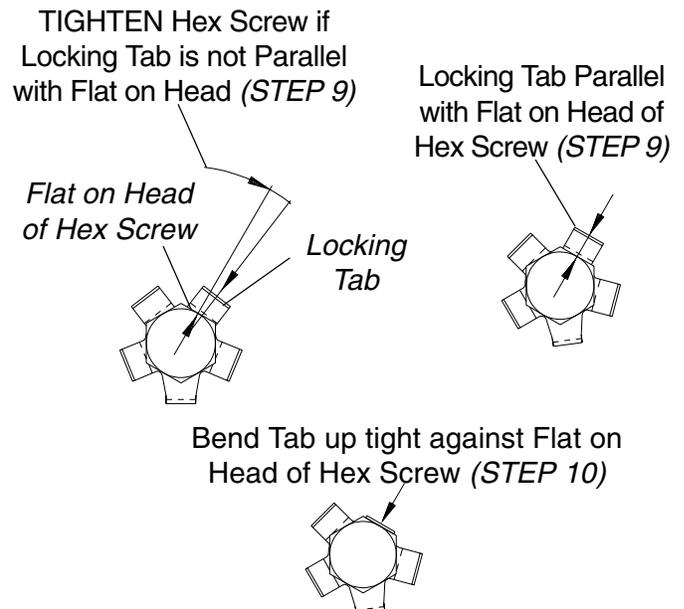

FIGURE 6 - LOCKING TABS
9. If one (1) of the tabs on the locking tab washer is NOT parallel with one (1) of the flats on the head of the hex screw (FIGURE 6), TIGHTEN the hex screw until the closest flat and locking tab are parallel.